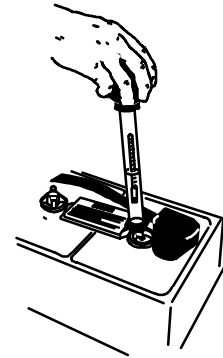

FIG. 37
1. Check the specific gravity using a hydrometer to determine the charge level and the condition of the batteries (Figure 37). If one or more of the battery cells read lower than the other battery cells (0.050 or more), the cell is damaged, shorted, or is about to fail. Check the hydrometer readings against the following chart to determine the remaining battery charge level.